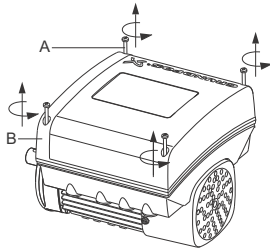

Fig. 14 Removing the terminal box cover
1. Loosen the four screws (fig. 14, A) and remove the terminal box cover (fig. 14, B).
- Fit the terminal box cover (fig. 14, B) and cross-tighten the four mounting screws (fig. 14, A) to 6 Nm.